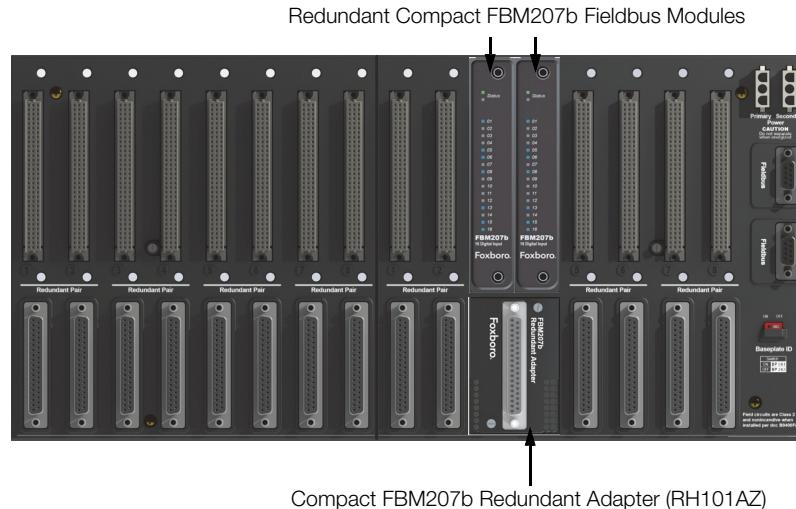

Figure 1. Compact FBM207b Redundant Module Configuration
Redundant modules must be located in adjacent positions on the baseplate, with the first module located in an odd-numbered position (for example, the positions labelled "3" and "4"). To achieve redundancy, a redundant adapter module is placed on the two adjacent baseplate termination cable connectors to provide termination for a single cable (see Figure 1). A single termination cable connects from the redundant adapter to the associated termination assembly (TA).